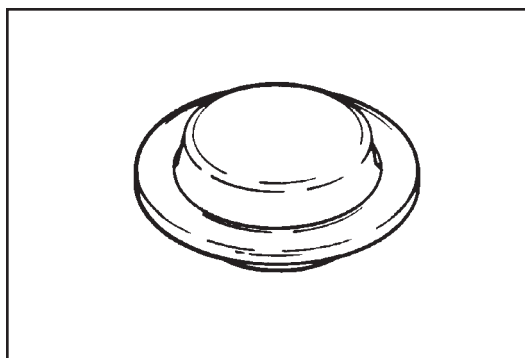

Figure A.6
- c. Make a few sample pans to check the die setting (see Chapter 3 for instructions). A good hermetic pan will have a flat bottom, with a complete seal around the circumference of the pan, and the sides of the pan will appear flat and smooth (see Figure A.6).